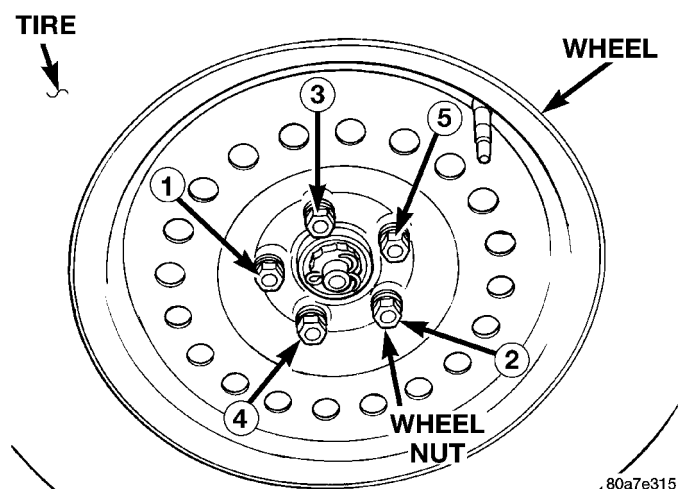

Fig. 14 Wheel Nut Tightening Sequence
(1) To install the wheel, first position it properly on the studs and hub mounting surface using the hub pilot as a guide. Install and **lightly tighten** the wheel nuts in the proper sequence (Fig. 14).
(2) Progressively tighten the 5 wheel nuts in the proper sequence (Fig. 14) until tightened to half of the specified torque. Then tighten the wheel nuts in the proper sequence to a torque of 135 N·m (100 ft. lbs.).